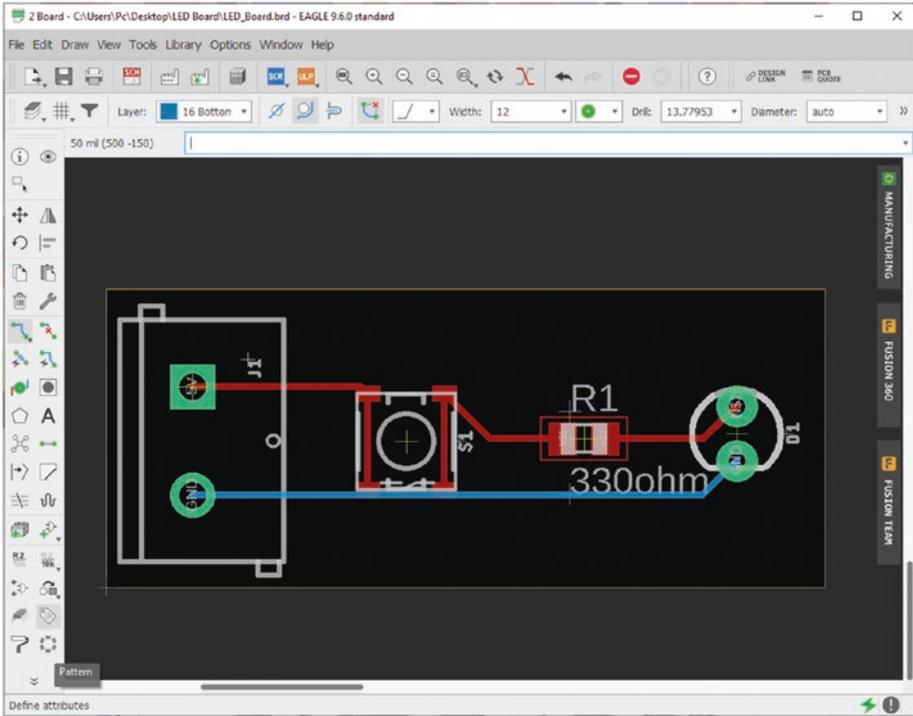

Figure 5-78. Final board
27. The board is now ready to be made into a Gerber file. See Figure 5-78.